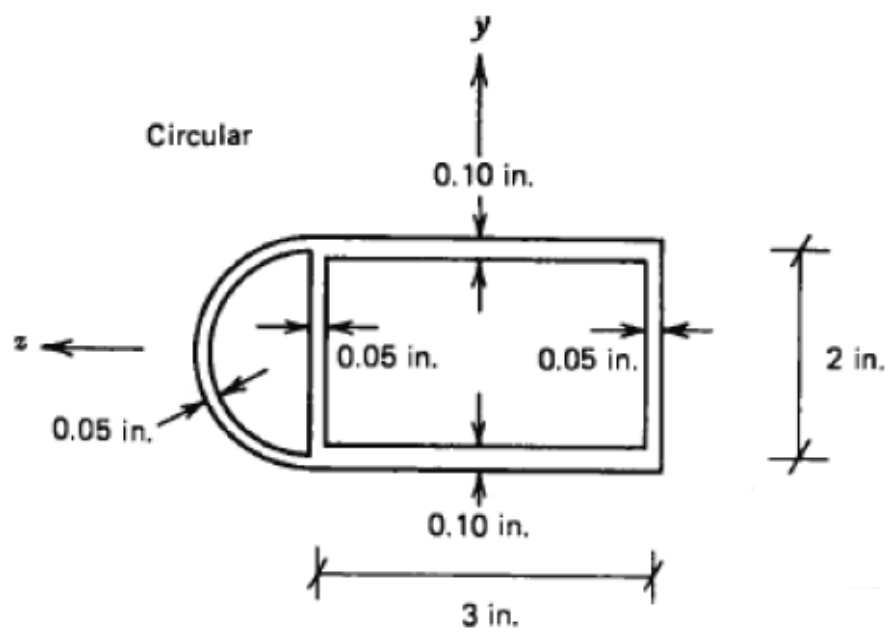

Fig. 5.
- 5C.** The cross section shown in fig.5. is subjected to a torque of $T = 1000 \text{ in-lb}$. Take $G = 4 \times 10^8 \text{ psi}$. Find, (4)